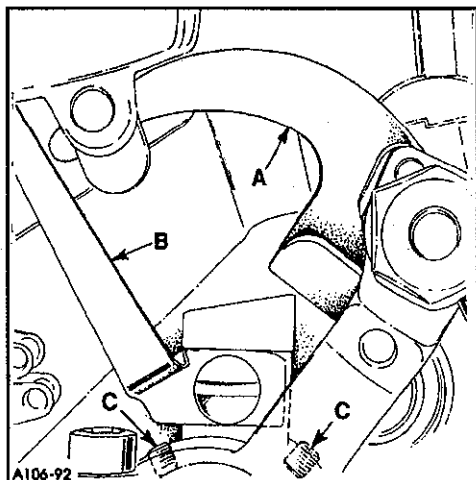

Fig. 7
If needle thread cam pull-off (A, Fig. 7) overlaps looper thread pull-off (B) loosen screws (C) and move pull-off (B) to the rear. There should be a small amount of clearance between cam (A) and pull-off (B). Tighten screws (C) making sure to take up end play in the needle driving arm.